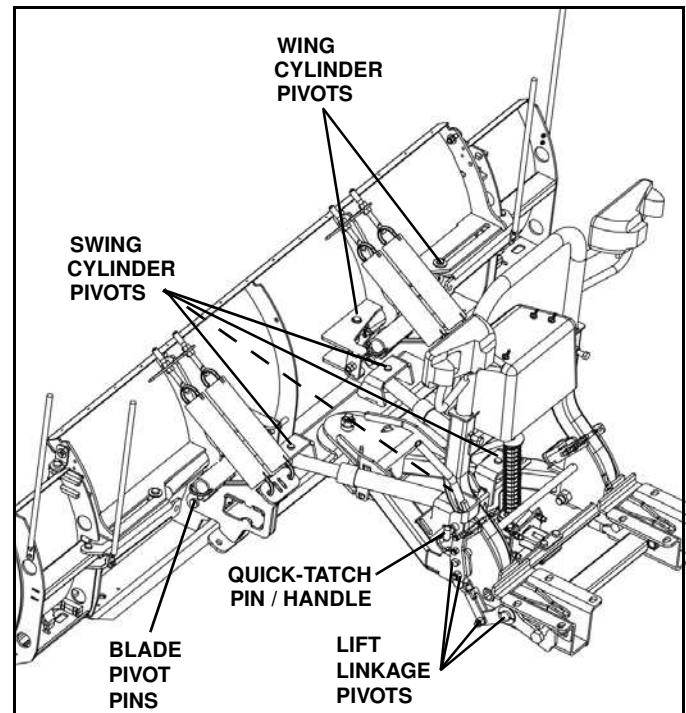

Figure 1-53
3. Apply a small amount of light oil to: attachment pin and handle assemblies, pivot pins between the blade and swing frame, and pivot pins at lift, swing and wing cylinders. Also lubricate jackstand pins. (See Figure 1-53).